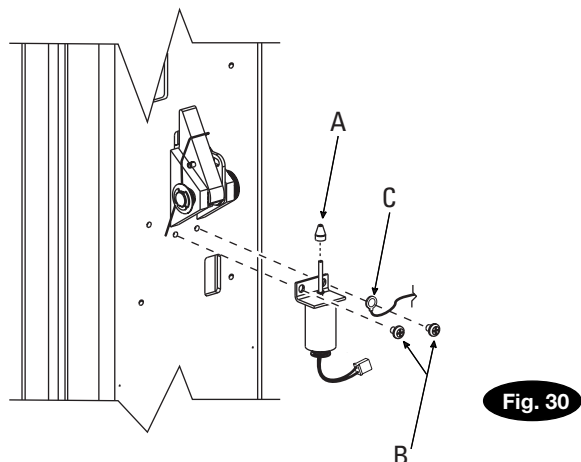

Fig. 30 Detail
22. Solenoid Attachment: Attach solenoids under locking latches of both columns, Fig. 30. Place sliders onto solenoid plunger rods. Place solenoids onto columns and tighten, Fig. 30.
Remove access panel from the master control panel (master control panel has 5 cables attached to it), Fig. 31. Install (2) 5/16"-18NC x 3/8" PHMS screws in holes on each side of the locking latch (power unit side) leaving approximately 3mm exposed to hold the panel. Hang the master control panel over locking latch to column on the 5/16"-18NC x 3/8" PHMS screws and pull the locking latch solenoid wire through the panel, Fig. 31. Plug locking latch solenoid into master control panel. Connect the ground wire with ring to terminal at one of the lock solenoid mounting screws, Fig. 30. Install (1) 5/16"-18NC x 3/8" PHMS in bottom of master control panel. Tighten down all (3) screws. Do not install access panel back into control panel at this time. It will be reinstalled in a later step.